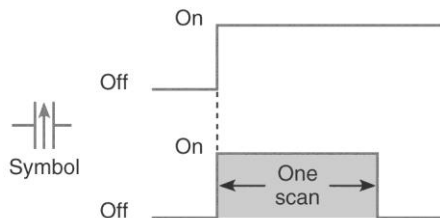

Figure 8-4 Contact instruction for question 22.
22. Figure 8-4 illustrates the operation of a 22._____